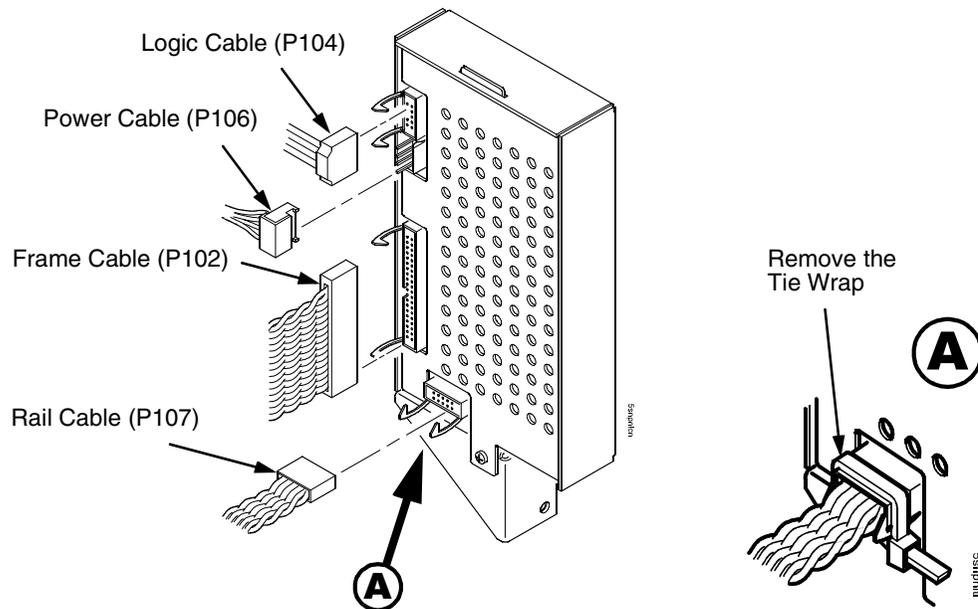

Figure 76. Removing Cables from the Stacker Control Panel
14. Remove four cables from the stacker control panel, and remove the stacker control panel. (Figure 76.)